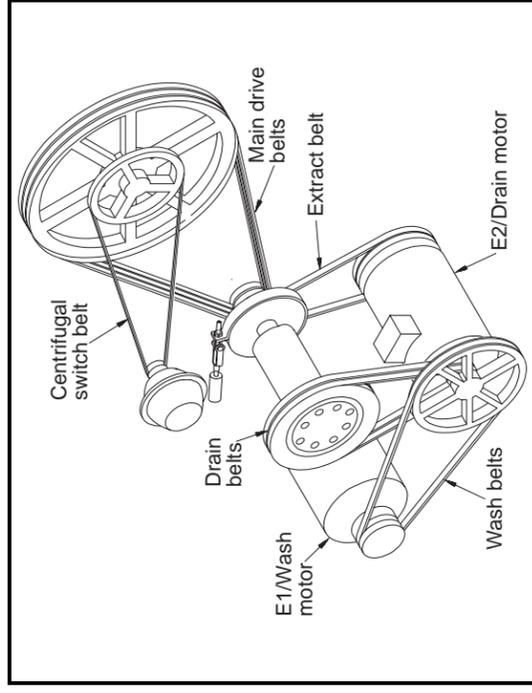

FIGURE 1 (MSSM0215AE)
1. Replace both belts if either the Wash or the Drain belt is worn (see FIGURES 1 and 2).
2. Determine belt deflection for the tested belt (see FIGURES 1 and 2 for the belt location and Tables A - E for the setting). Move lower O-ring to the correct setting (inches or centimeters) on scale. Read the bottom edge of the O-ring.